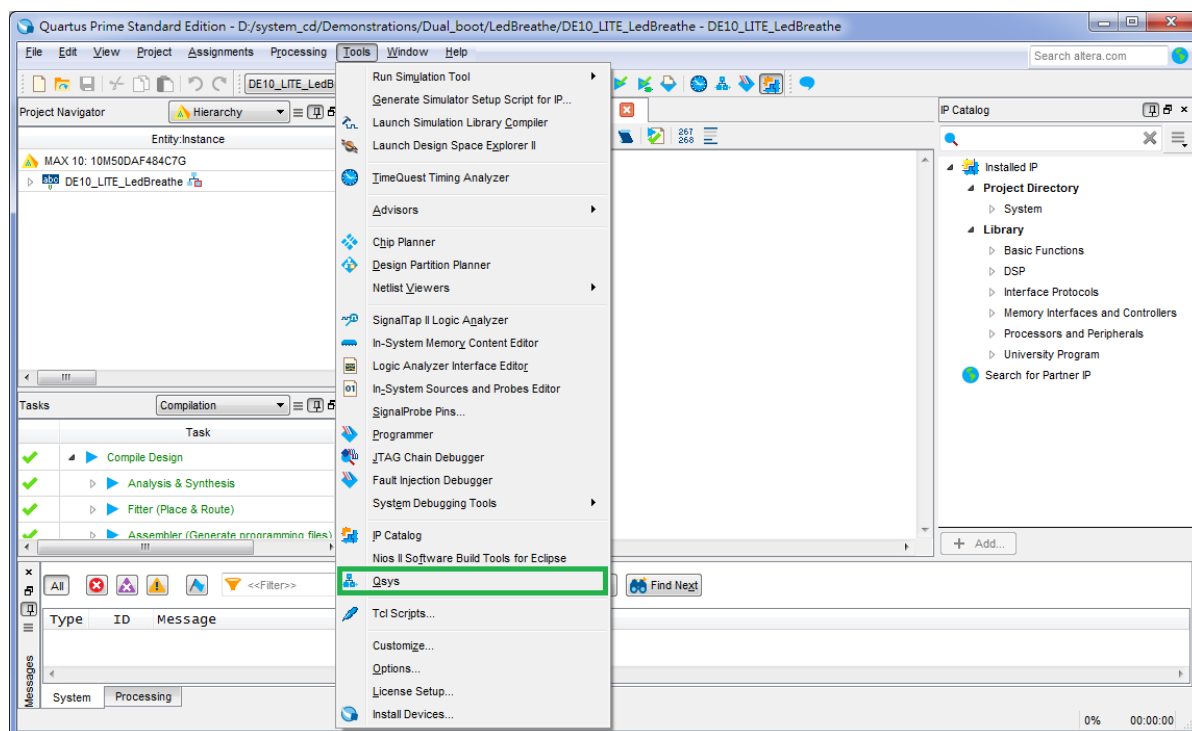

Figure 6-4 Select Qsys menu and click
1. Open Quartus project and choose **Tools > Qsys** to open Qsys system wizard as shown in **Figure 6-4**.